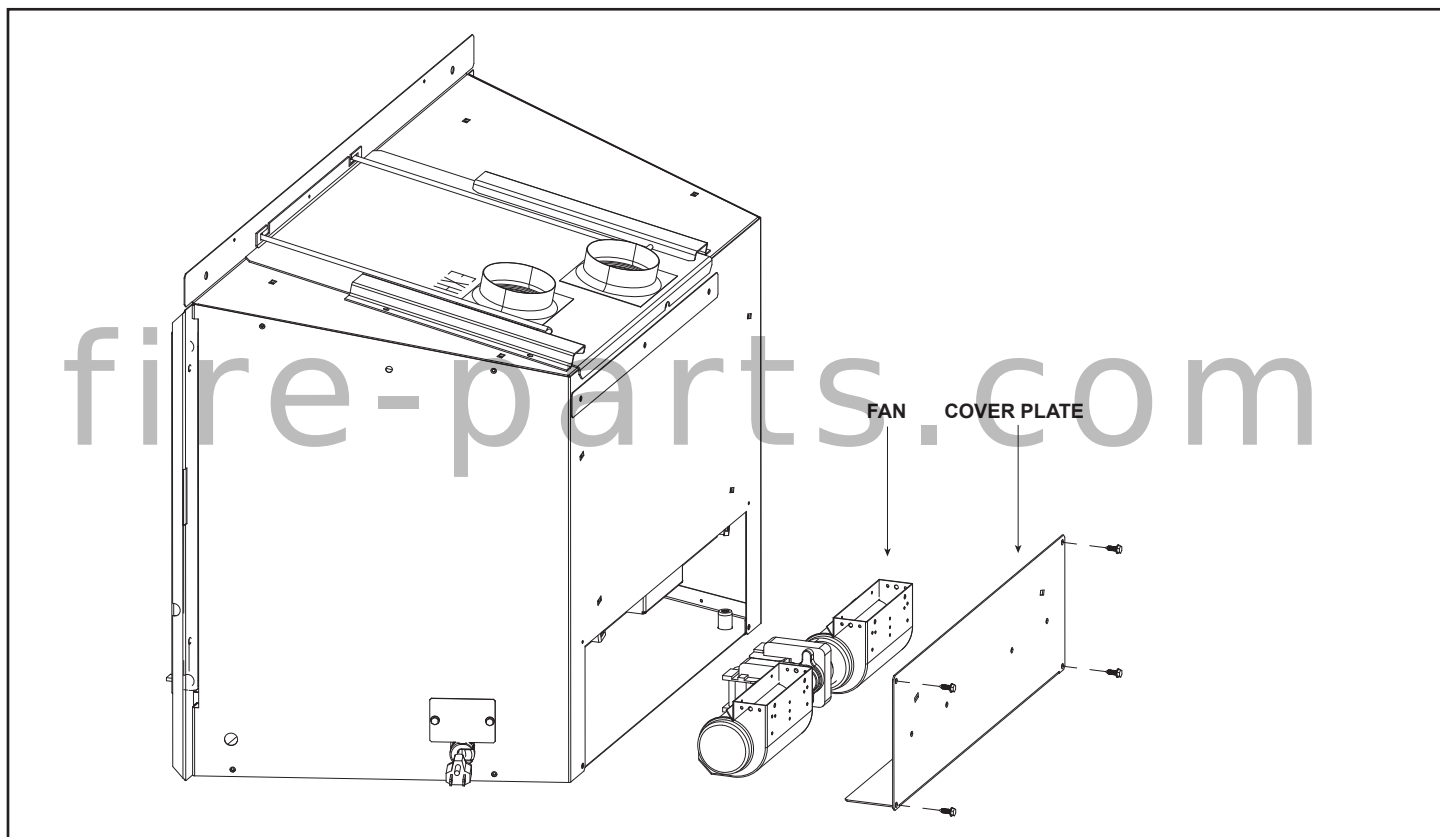

Figure 10.6
- Remove the four screws on the cover plate (see Figure 10.6).